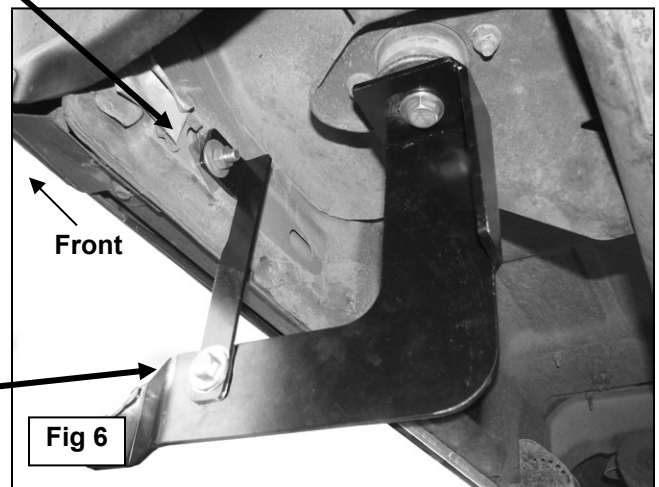

Fig 6
6. Attach the lower end of the front Support Bracket to the front of the Mounting Bracket with (1) 10mm x 30mm Hex Bolt, (1) 10mm Lock Washer, (2) 10mm Flat Washers and (1) 10mm Hex Nut, **(Figure 6)**. Do not tighten hardware at this time.